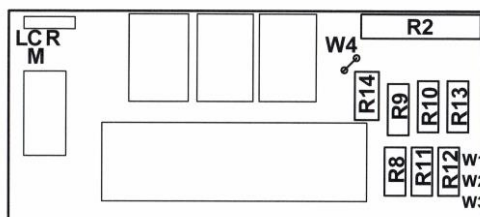

Figure 3. Component Location
1. **Connector.** The connector (purchased separately) after assembling, is plugged onto pins at rear of meter. Line up connector key with missing pin in position 2. Pin 1 in Figure 3 is the pin that's by itself. Pin 2, 3, 4 and 5 are not installed on the PC board of the meter.
3. **Signal.** For most applications it is desirable to have SIGNAL LO (Pin 6) connected to power ground (pin 7). As shipped, the meter makes this connection with a printed circuit trace labeled "W1." Connect signal HI and signal LO of the source to pins 1 (HI) and 6 (LO) respectively of the meter. A shielded cable may be required if the signal source has a high resistance. If there is any connection between source LO and power ground (other than W1), and if instability is observed in the least significant digits of the display, this instability may be improved by cutting the W1 PC trace.
- Install jumper W3. (See Figure 3)
3. Observe resistor values that are in meter and compare to figure 3 and table II. Install resistors specified in table II to attain desired range.
Current Range Kit NLS P/N 53-108 provides all the resistors required to measure DC currents. The meter must be in the 100 mV range to accomplish this. Refer to Figure 3 & 4 and Table III, for position of R14. **Higher currents are measured by using an external current shunt.** See Table III for resistor values.